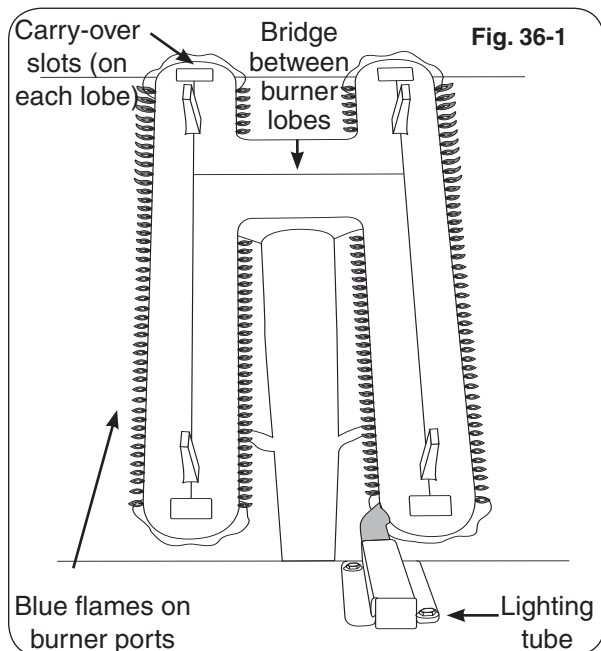

Fig. 36-1
Flames from a properly adjusted main burner with no wind or breeze present will appear fairly steady, consistent, and mostly blue. If the tip of a flame were to turn orange, it should only do so briefly and then become blue again. The flames will appear to burn while touching the burner ports (see Figure 36-1).
6. Repeat steps 1-4 until the flames appear to touch the burner ports, burning fairly steadily and mostly blue (see Fig. 36-1).